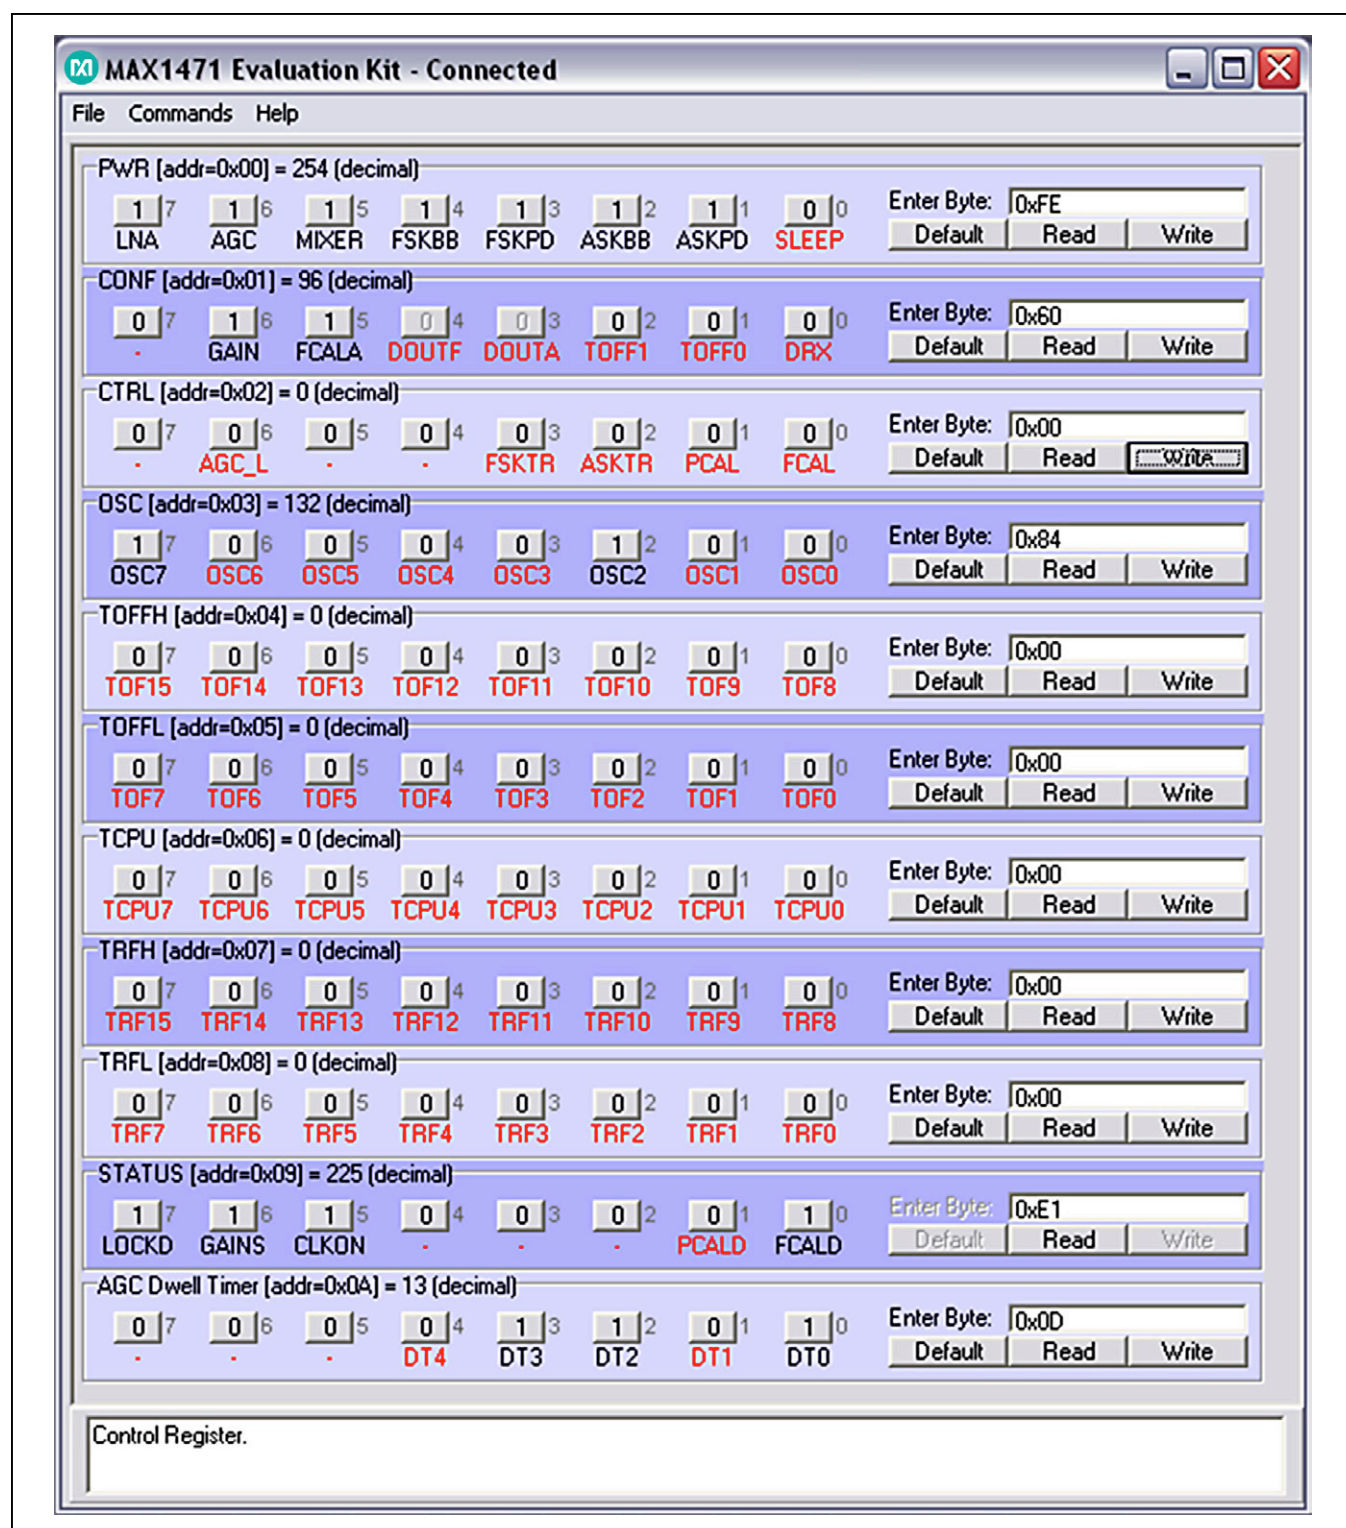

Figure 3. Control Display from MAX1471 Software (Display After Calibration)
- e. Click the "Write" button in the CTRL row. The FCAL bit in the CTRL row will change to 0 and the FCALD bit in the STATUS row will change to 1 (see Figure 3). This means that the MAX1471 FSK demodulator is calibrated so that the voltage vs. frequency characteristic is centered at the 10.7 MHz IF.